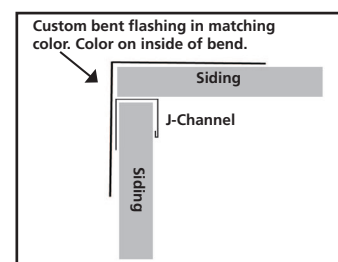

Figure 3.1.2
- i. Option A: Trim Coil Color-Matched Flashing (Figure 3.1.2)